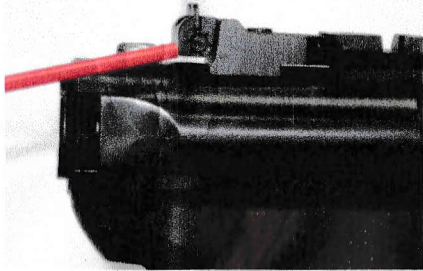

Fig. 1
- 1: Remove the windage adjustment screw located on the right side of the rear sight base. (See Fig. 1) The rear sight blade is under spring tension and will move all the way to the right when the windage adjustment screw is removed.